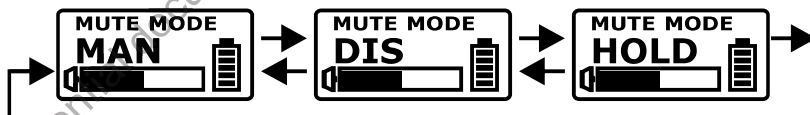

Fig. 19
(H) MUTE MODE: Mute Setting. Fig. 19
- (1) Select MAN, DIS or HOLD.